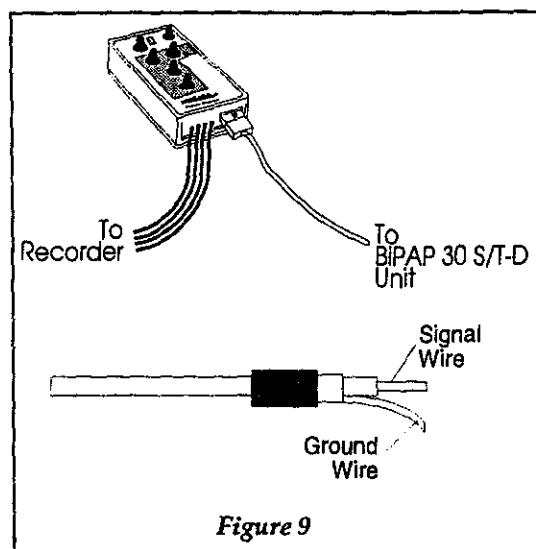

Figure 9
- Step 3** If patient output recordings are desired, use the Remote/Recorder cables to connect the DCP 30 to the recorder. See Figure 9.